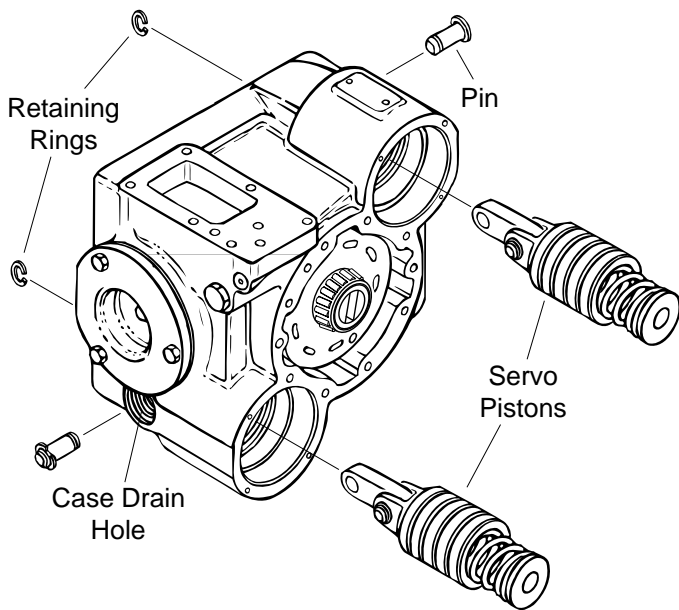

Figure 9
**34** Remove the inside retaining ring from each of the pins that connect the servo piston links to the swashplate. Slide the pins out through the case drain holes and remove the servo pistons, see figure 9.